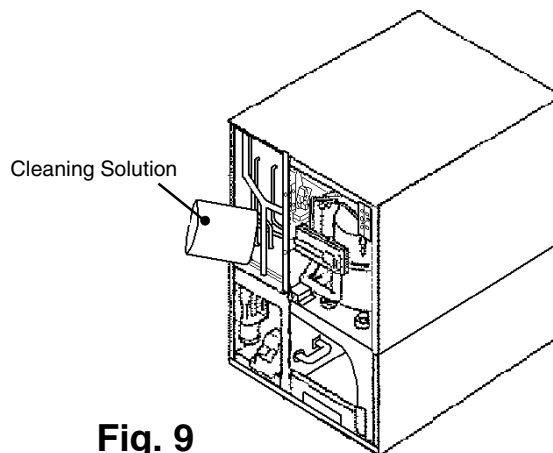

Fig. 9
- 6) Pour the cleaning solution into the Water Tank. See Fig. 9.
- 3) Pour the sanitizing solution into the Water Tank. See Fig. 9.